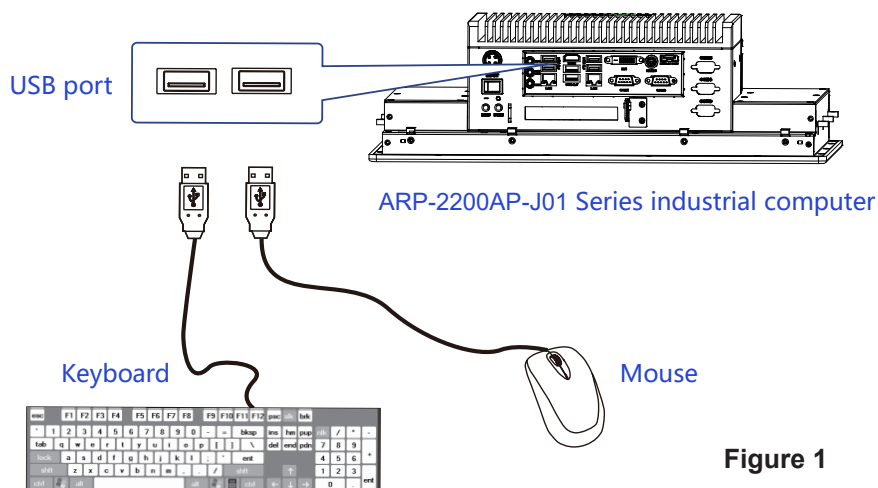

Figure 1
- Insert a USB keyboard and a USB mouse(not supplied) to ARP-2200AP-J01 Series touch panel industrial computer for controlling on the computer(Figure 1). You can also insert a PS2 type keyboard or a PS2 type mouse(not supplied) to your industrial computer(Figure 2).